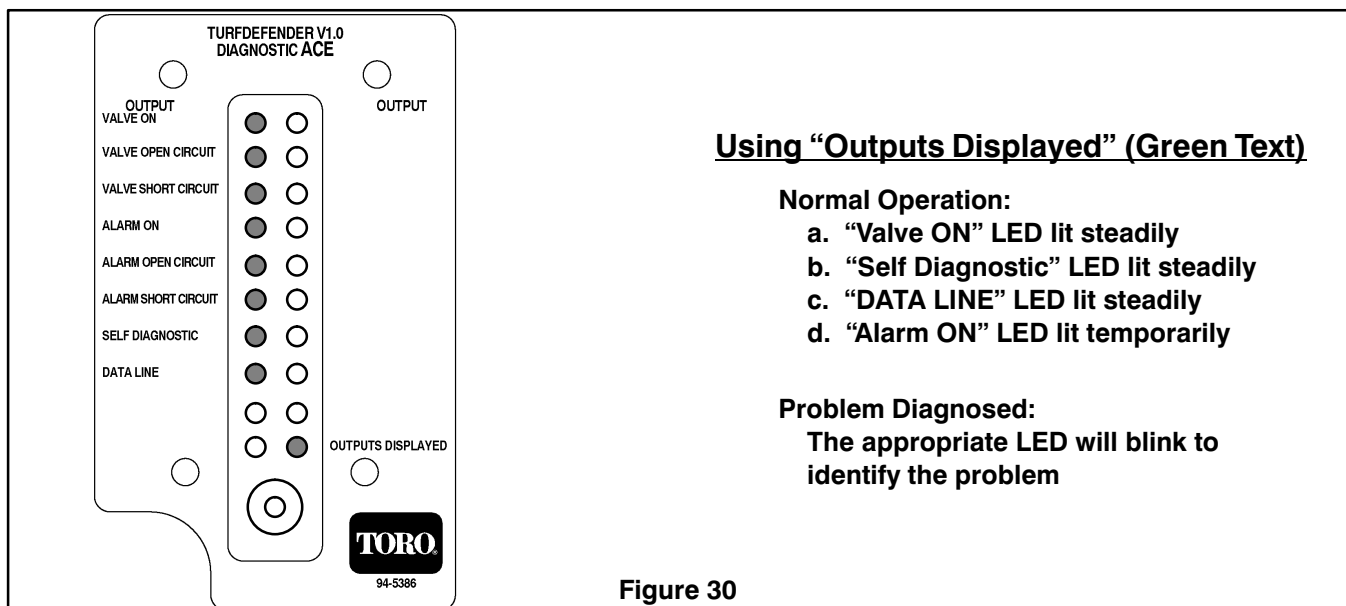

Figure 30
2. Press toggle button until green "Outputs displayed" LED is lit. "Valve ON", "data line" and "self diagnostic" LED's should be lit steadily. "Alarm ON" LED may be displayed temporarily (about 5 seconds) (Fig. 30).
4. Toggle "outputs displayed" on Diagnostic ACE display (Fig. 30).
2. When toggling "output" a LED should display (Fig. 30) any of the following problems diagnosed by the TurfDefender: